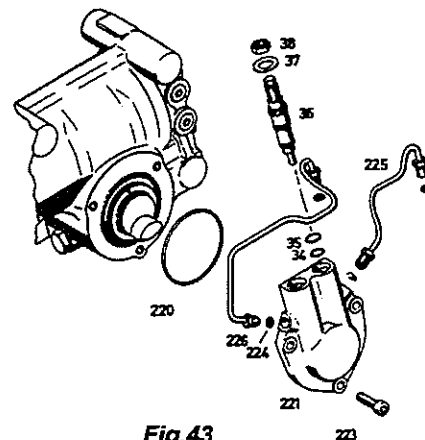

Fig.43
Fit pipes (225 and 226) (see Fig.43) with new O-rings (224).
Insert O-ring (220) (*Fig.43*).